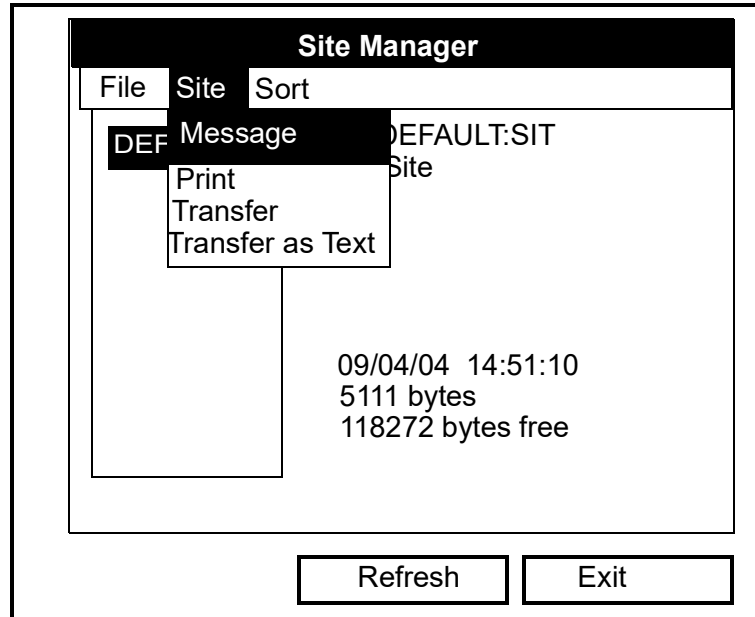

Figure 81: The Site Menu in the Site Manager
You can access four additional functions from the Site submenu (shown in Figure 81).
1. Press **[MENU]** to enter the File Menu. Then press the **[▶]** arrow key once to scroll from the File Menu to the Site Menu. Press **[ENTER]**. The screen appears similar to Figure 81 below.